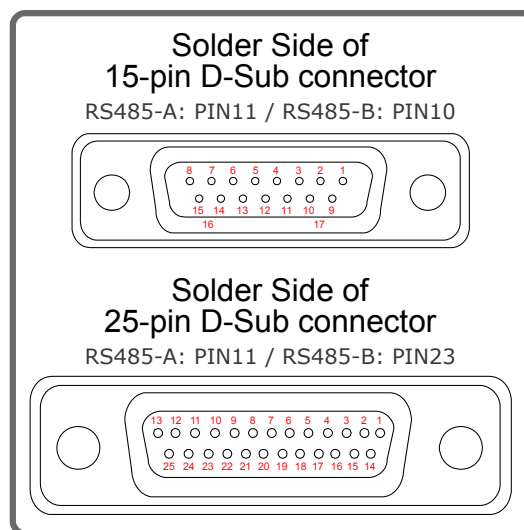
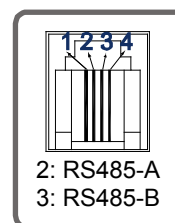

Figure 7: Solder side of the DVR’s supplied D-Sub connector
Figure 8: RS485 Port
- Step4: Solder the red and green wires of the RJ11 line to the corresponding pins of the D-Sub connector supplied with the connected DVR (*Figure 7*), or the RS485 port on the DVR rear panel (*Figure 8*).
Step4: Solder the red and green wires of the RJ11 line to the corresponding pins of the D-Sub connector supplied with the connected DVR (*Figure 7*).